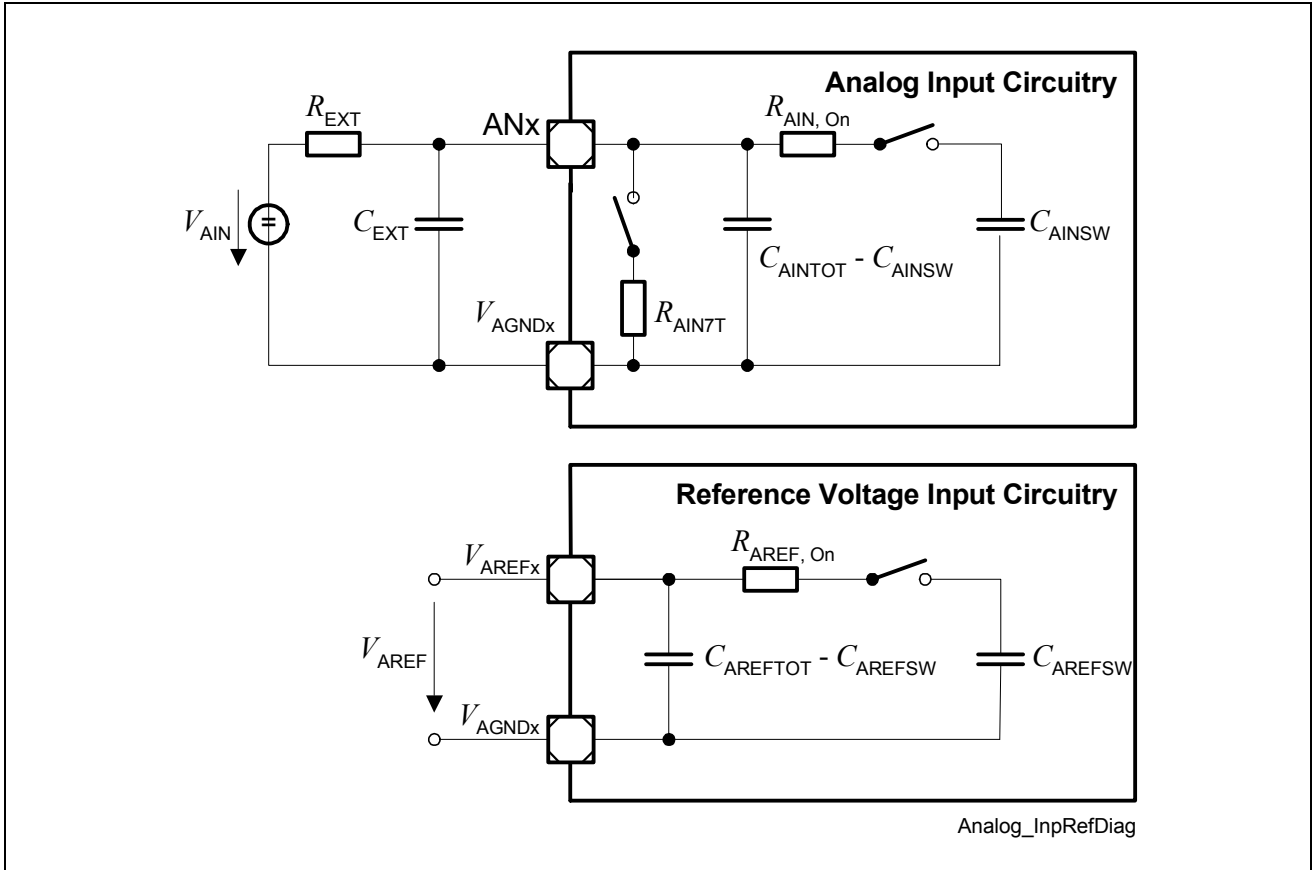

Figure 23 ADC0/ADC1 Input Circuits
- 16) For the definition of the parameters see also **Figure 23**.